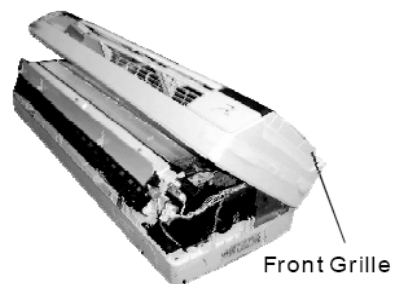

Fig. 5
3. Pull out the front grille from the unit body. (Fig. 5)